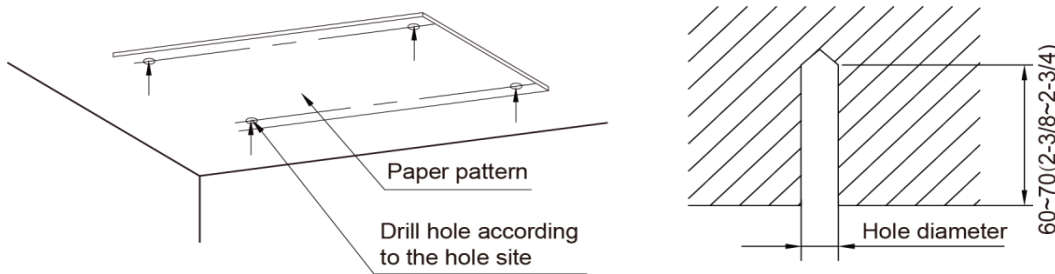

Fig4
- a. Stick the cardboard template onto the installation position(Fig4).
- b. Drill 4 holes using the hole pattern on the cardboard template as shown in Fig4.
- c. The diameter of hole to be drilled is determined by the diameter of expansion bolt and the depth is 60-70mm (2-3/8~2-3/4 in.), as shown in Fig4.